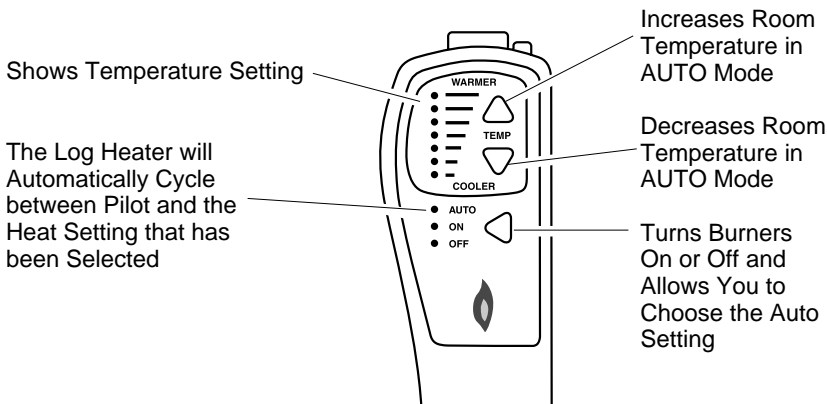

Figure 26 - Thermostat Hand-Held Remote Control Unit Selections (GHRCTA only)
- 2b. Press the AUTO/ON/OFF button on the hand-held remote control (see Figure 26, page 16). The lights to the left of the button will show AUTO, ON, or OFF.